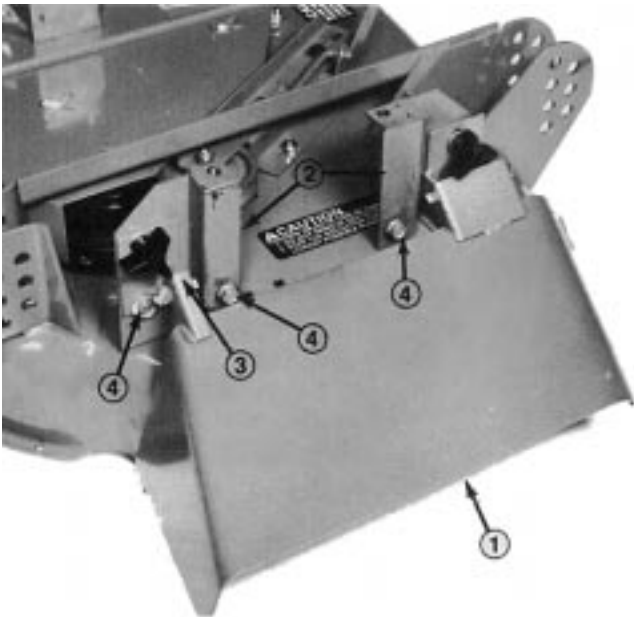

Figure 20
2. Remove (2) knobs and washers securing blower to mounting brackets and remove blower and chute.
3. Slide cutting unit grass deflector onto alignment bolts and secure to mounting brackets with knobs and washers (Fig. 20).
4. Install belt cover (Fig. 20).